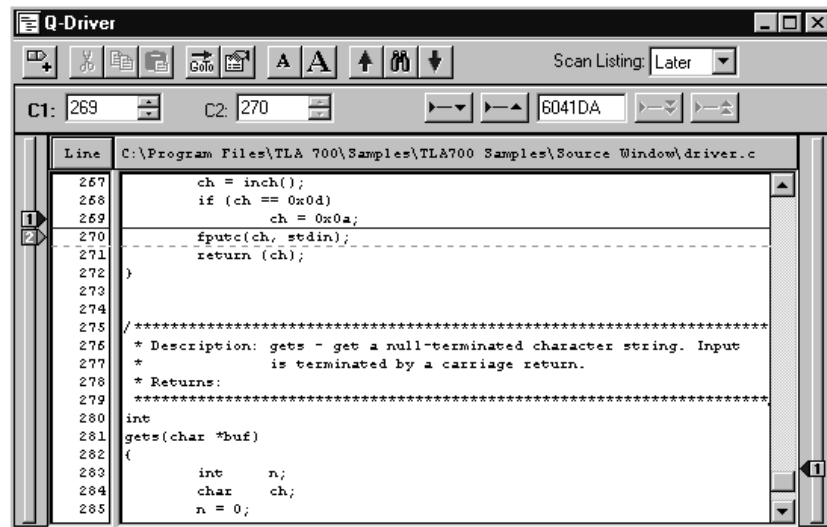

Figure 1–15: Source window
**Source Windows.** Source windows (see Figure 1–15) display source data. You can track the execution of source code based on the data displayed in a Listing window.